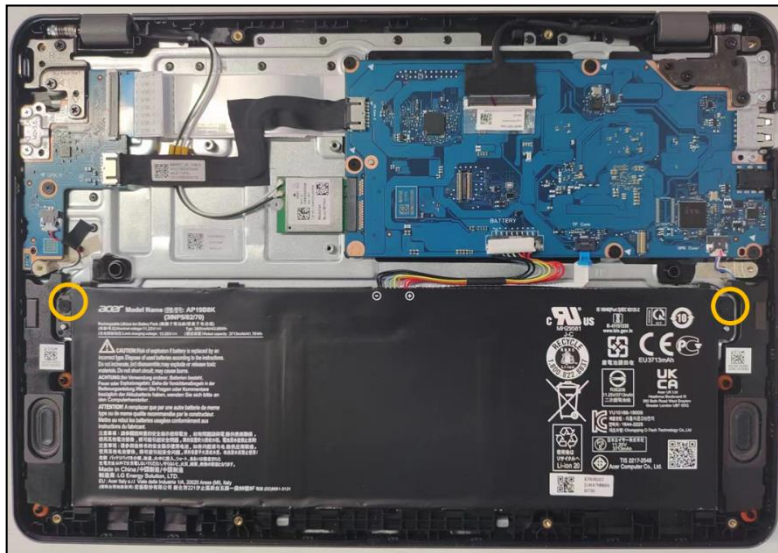

Figure 3-114. Replacing the Battery Pack
2. Install two (2) screws to secure the Battery in place (Figure 3-114).